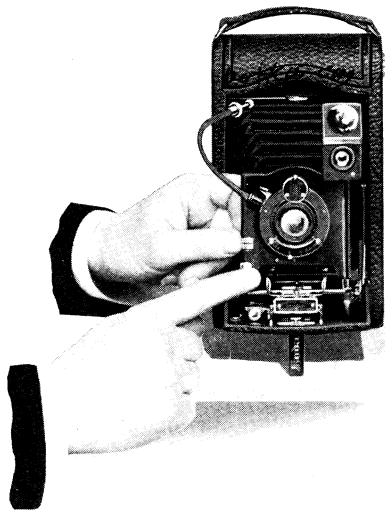

FIG. 1.
Fig. 1. shows how to raise and lower the front when making vertical exposures. The front may be raised or lowered by pressing in on eccentric catch just below milled screw, and at the same time turning screw to right or left.
5. Insert film cartridge in spool carrier and close up the movable arm against end of spool. Have the red paper ("B" in Fig. 1) lead from the top.